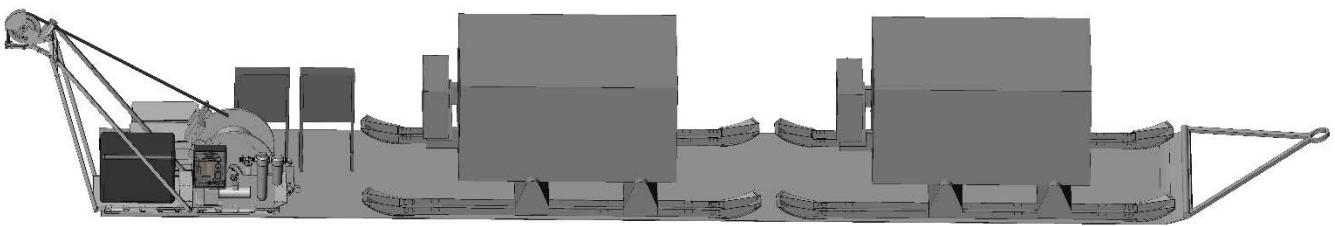

Fig. 1: RAM2 Configuration-1 shown on a 50'x 8' sled.
- Detailed performance data for the rig is summarized in Appendix A1. See layout Fig. 1.